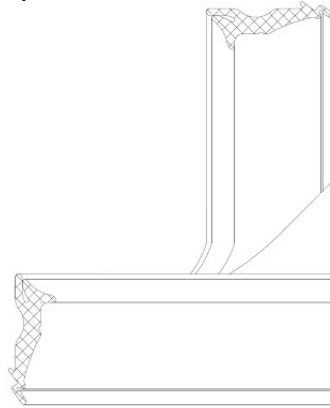
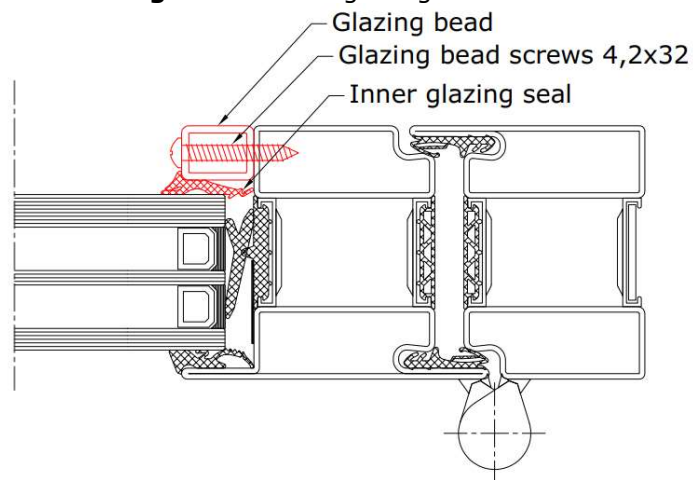

Figure 11 Inner glazing seal corners
Figure 12 Glass installation
7. Install the inner glazing seals. First glue the vertical seals onto the glazing beads and cut the ends of the seals to 45 degrees, with additional length (Figure 11). Install the horizontal glazing beads and then the vertical beads between them. Glazing beads are installed with 4,2 x 32 mm screws (Figure 12).